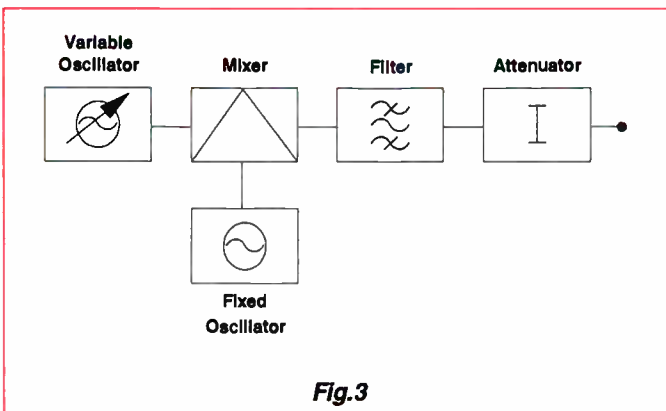

Fig.3
**Fig.3:** As a mobile subscriber can move from cell to cell during a call, provision must be made for 'handing off' the call from one base station to another. The mobile switching centre (MS) is used to manage this operation.
To co-ordinate this, groups of base stations are connected to a Mobile Switching Centre (MS), which must transfer the mobile station from one base station to another (Fig.3). Thus, handoff requires some fast work on the part of the mobile switching centre and base stations, if it is to be carried out efficiently with the minimum of disturbance to the subscribers call.
One way of avoiding the bandswitching problems associated with the fundamental oscillator design is to mix the outputs of two high frequency oscillators and to extract the difference signal (see Fig.3). After filtering and amplification, this difference signal can then be used to provide an output which covers many octaves in a single tuneable range.